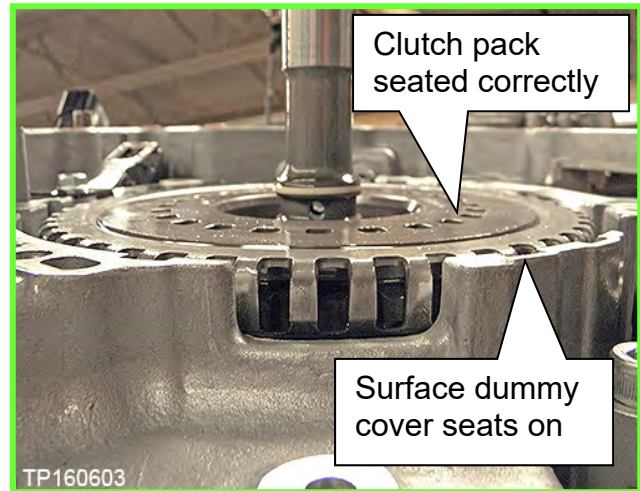

Figure 173
- Figure 173 shows the clutch pack fully seated.